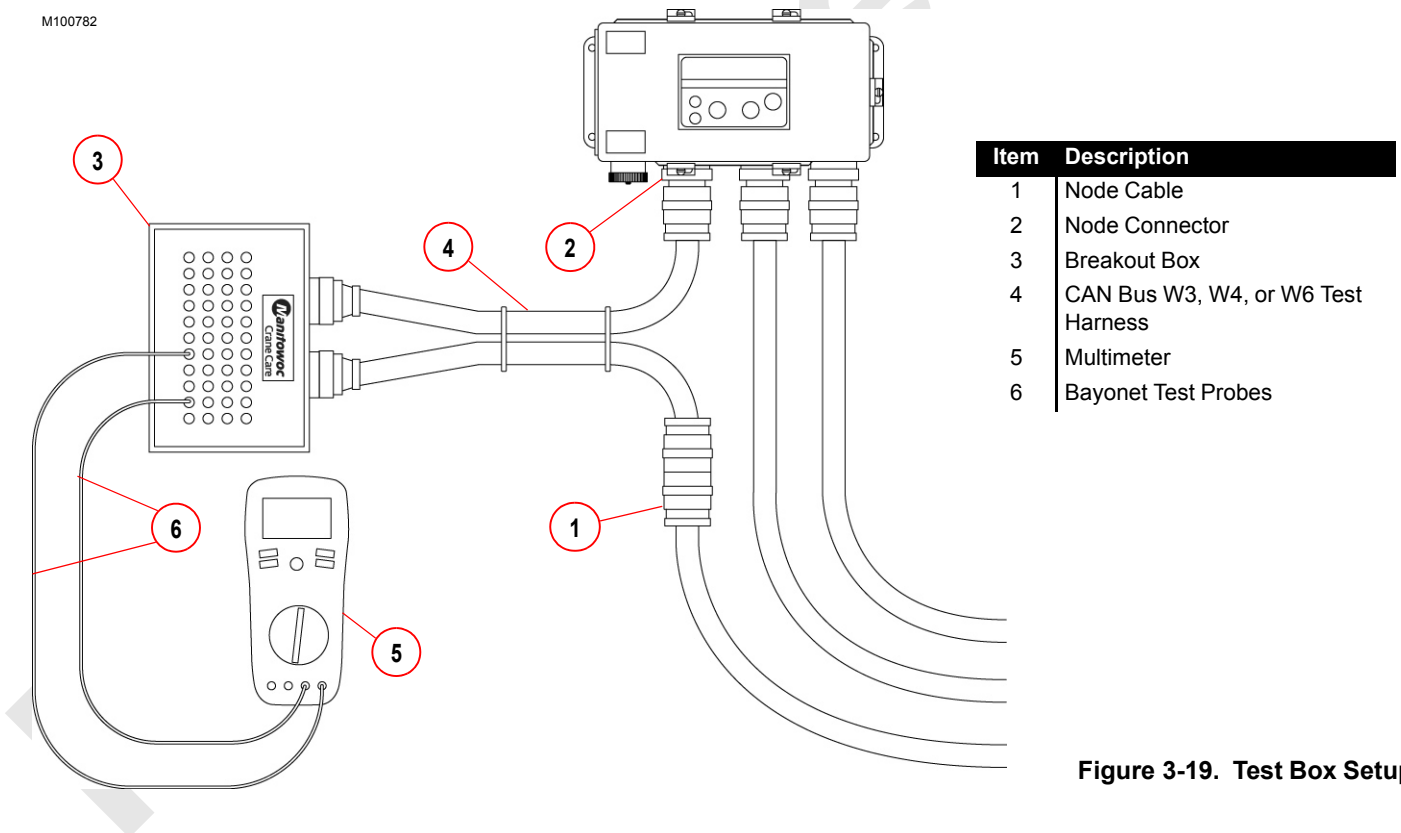

Figure 3-19. Test Box Setup
The breakout test kit provides a breakout of the node signals to easily probed bayonet connections. Each node connector (2) Figure 3-19 on page 3-15 is keyed uniquely and requires a matching keyed test harness assembly (4) from the Electrical Test Kit.